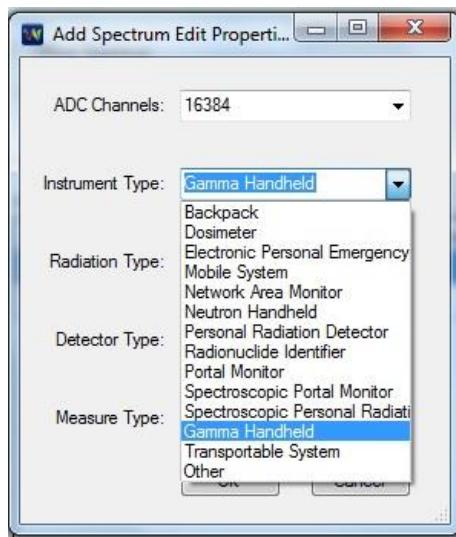
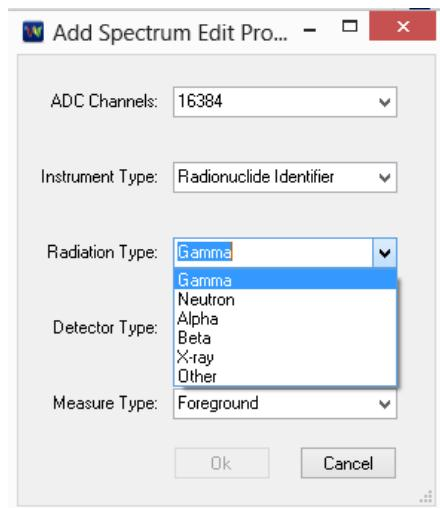

Fig. 4.7: MC²Analyzer Wizard Dialog Box – “File/Add Spectrum/EditProperties” Dialog Box - Instrument Type Pull Down Menu
Fig. 4.8: MC²Analyzer Wizard Dialog Box – “File/Add Spectrum/EditProperties” Dialog Box - Radiation Type Pull Down Menu
- **Initial Spectrum**, that allows to upload an initial spectrum to be added to the online spectrum. The “...” button allows to browse a spectrum to be loaded. The button “Edit” allows to modify the spectrum properties. See **Fig. 4.7** and **Fig. 4.8**;
The user can tag the spectrum files by left clicking on the “Edit” key of the corresponding channel line. The **Add Spectrum Edit Properties** Dialog Box will appear as in **Fig. 4.7**. The five Pull Down menus allow the user to indicate:
From the **Detector Pull Down Menu** (See Fig. 4.8) the user can associate to the recorded file the type of Detector that was used to execute the measurement.